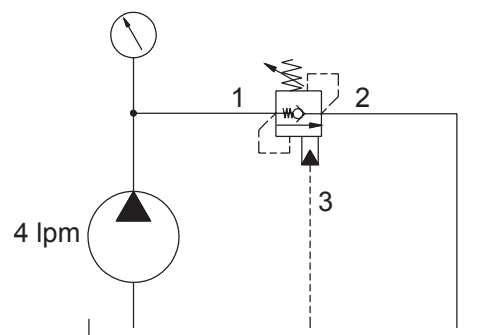

Fig.3
The **standard pressure setting (Pt)** of the counterbalance valves corresponds to pressure detected on port (1) while the valve is crossed by 4 l/min. (fig.3)